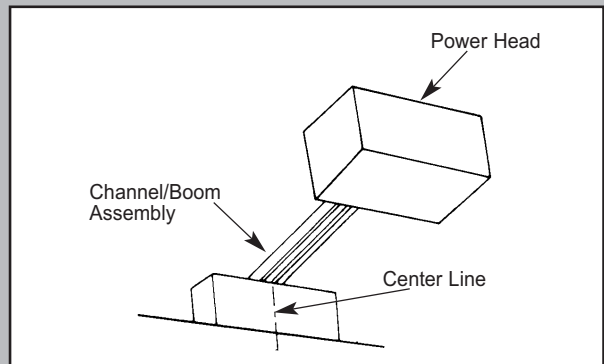

Fig. 2-5
**5. Level boom assembly and power head (Fig. 2-5).**